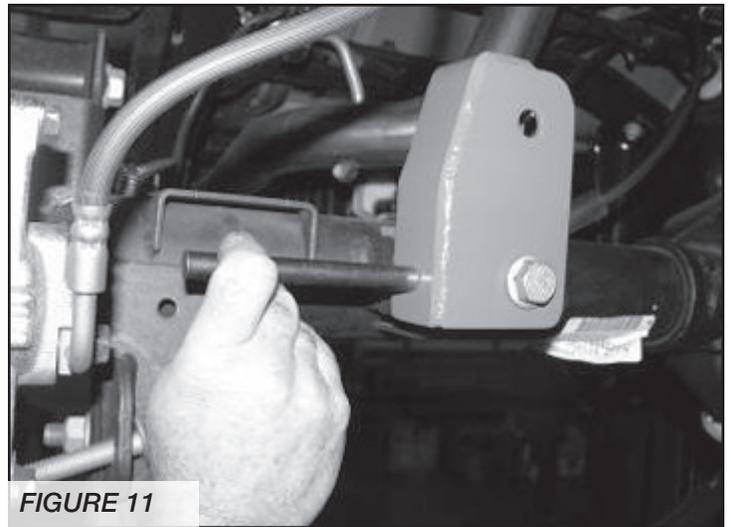

**FIGURE 9**
17. Remove the brake line bracket from the frame and save the hardware. Remove the plastic clip that holds the ABS lines to the frame and at the rear upper link arm pockets. Do not damage the clips, they will be reused. Remove the top differential cover bolt and remove the wheel speed sensor line clamp. Save the bolt. Remove the two nuts holding the E-Brake cable to the body of the Jeep and save. SEE FIGURE 9